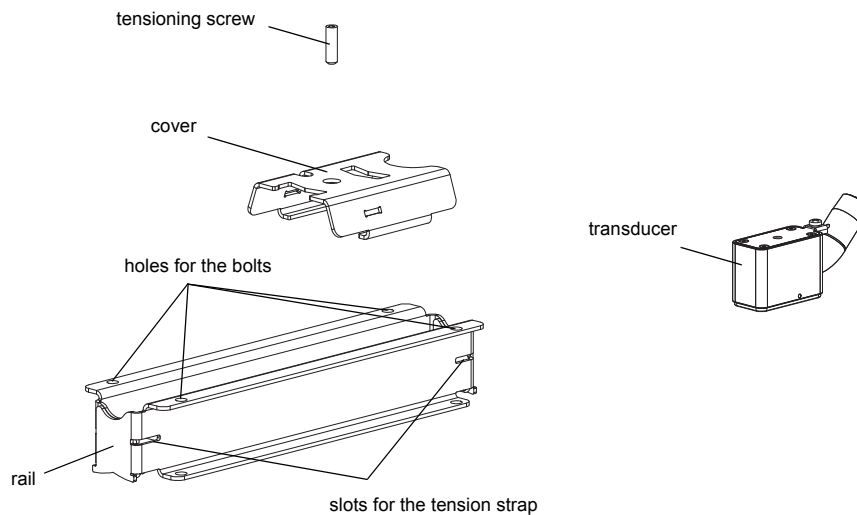

Fig. 8.45: Disassembly of PermaFiX
- Disassemble the transducer mounting fixture PermaFiX (see Fig. 8.45).